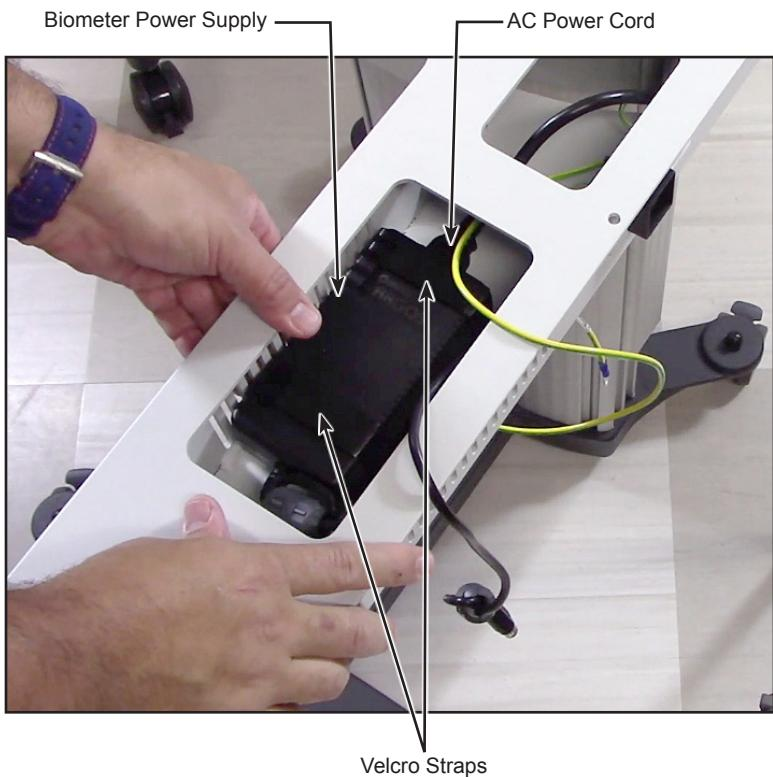

Figure 2-6 Biometer Power Supply Installation
- 2.4 Connect the biometer power supply to the pre-installed AC power cord, and then secure the power supply to the table with the Velcro** straps as shown in **Figure 2-6**.